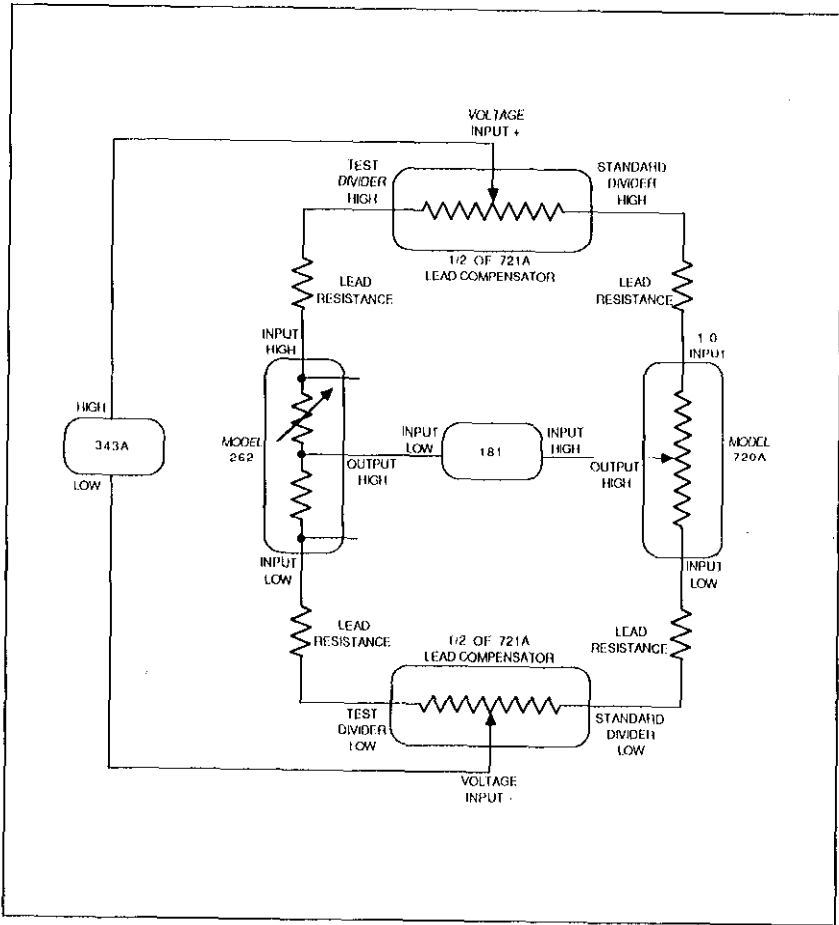

Figure 7A. Pot Adjustment Set Up Schematic
22. Modify the equipment set up as shown in Figure 7A and B.